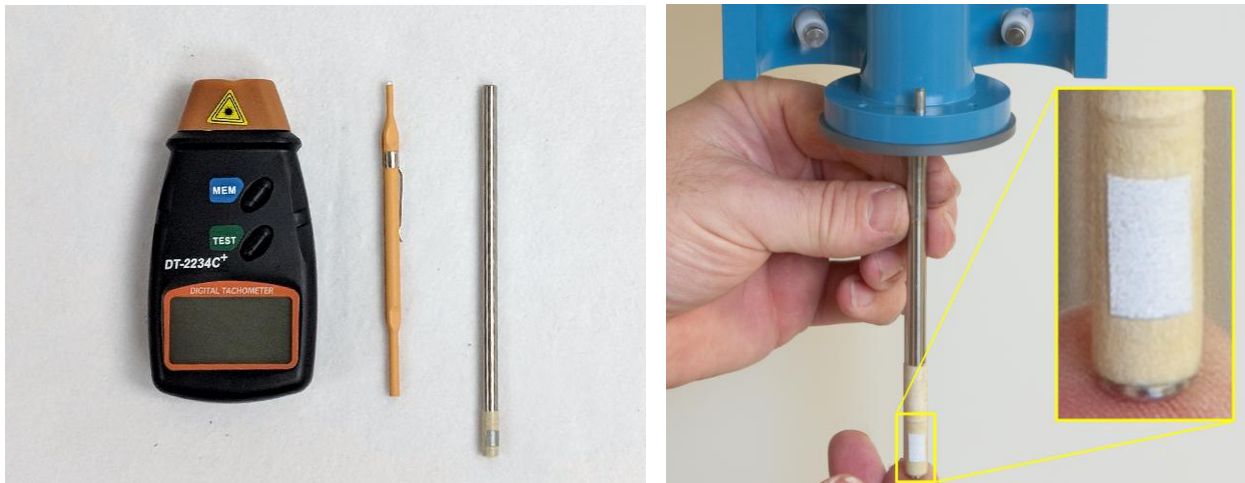

Figure 2-3. MSR Calibration Kit Tools (left) and Installation of Calibration Shaft (right)
4. While the power is switched off, install the tachometer target shaft into the motor coupling on the motor unit. This target should be a metal rod with the appropriate diameter (1/4" or 6.35 mm), which is included with the MSR Rotation Rate Calibration Kit (AKMSRCAL). Many tachometers require that a piece of reflective tape be attached to the end of the shaft, which has already been done to the calibration shaft included with the kit (see Figure 2-3).